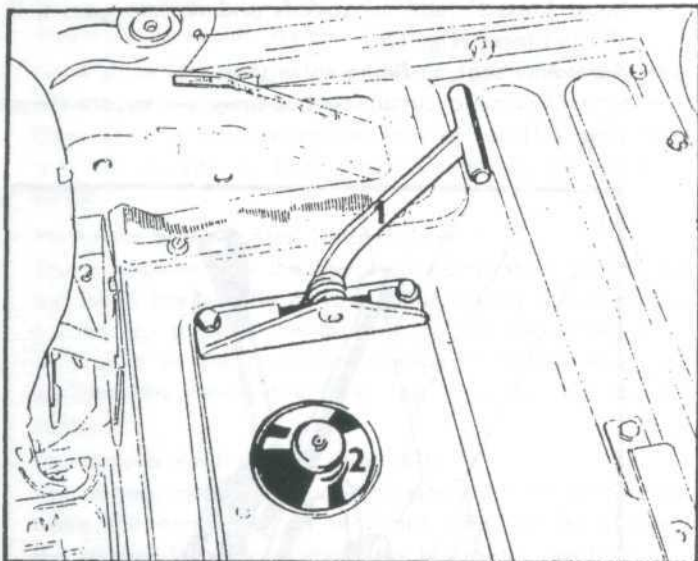

Fig. 5
- Attached implement control lever for single-axle trailer (Fig. 5/1)
- Throttle (Fig. 5/2) — controls the speed of starting the three-point linkage